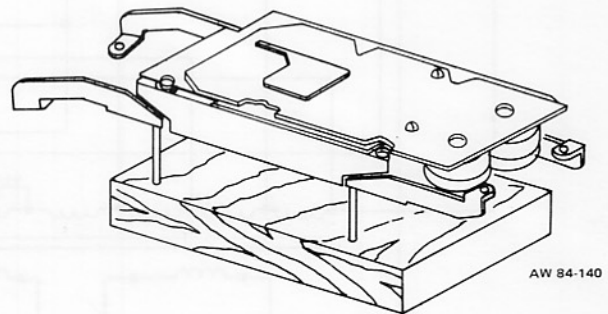

Figure 5: Holding Fixture
- (a) Place the dial face down on a holding fixture. (See Figure 5.)